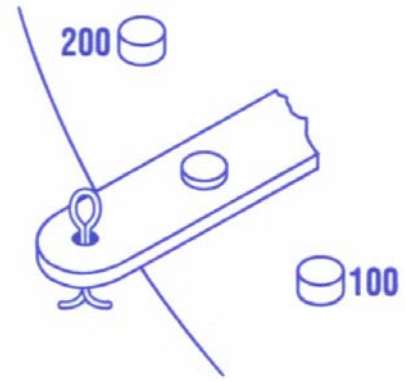

FIGURE 2
- 2) Move dollar shift lever to "central" position. (see Figure 2).
- 2) Move dollar shift lever to "100" position. (see Figure 2).
- 2) Move dollar shift lever to "200" position. (see Figure 2).